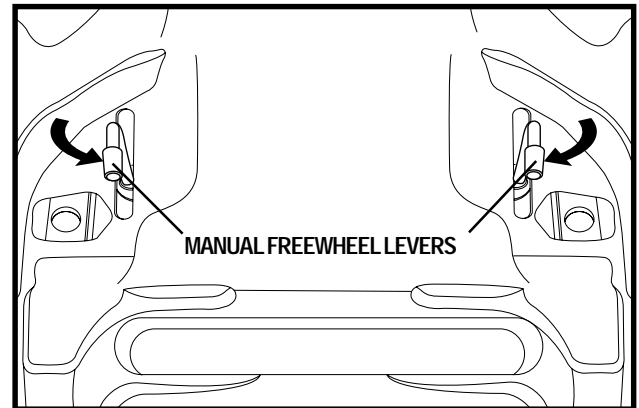

Figure 9. Drive Engaged (Dual Levers)
2. Turn the freewheel levers inward to engage the drive motors. See figure 9.